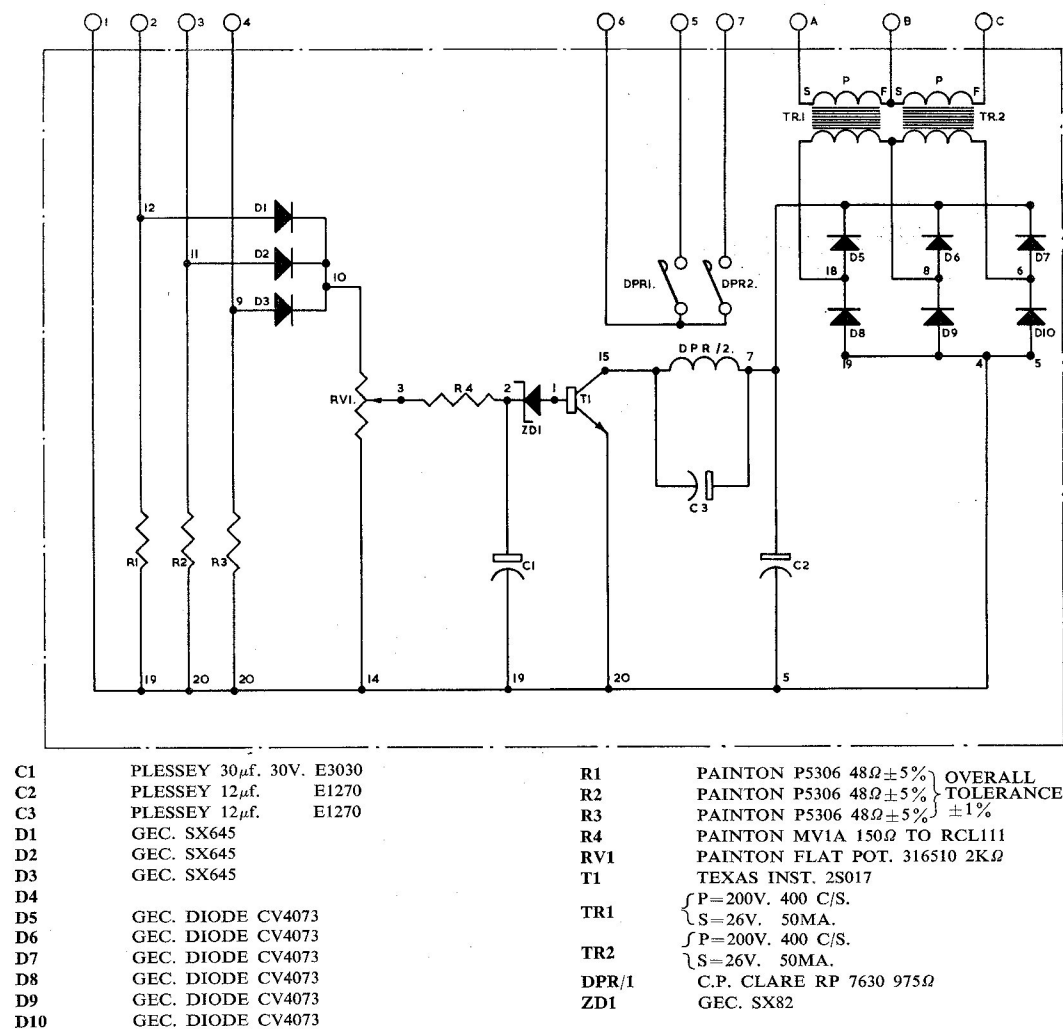

Fig. 3. Wiring diagram
17. Referring to wiring diagram, fig. 3, R1, R2 and R3 of the unit act as calibrating resistances and have an overall tolerance of \pm one per cent. Diodes D1, D2 and D3 summate the input from the current transformer network to transistor T1. Zener diode ZD1 is the reference point in the circuit and potentiometer RV1 controls the point at which the zener diode breaks down. Transistor T1 is energized through the zener diode and controls relay DPR/2. Resistor R4 and capacitor C1 effect a slight time delay in the transistor circuit. The a.c. supply is rectified by a bridge formed by diodes D5, D6, D7,